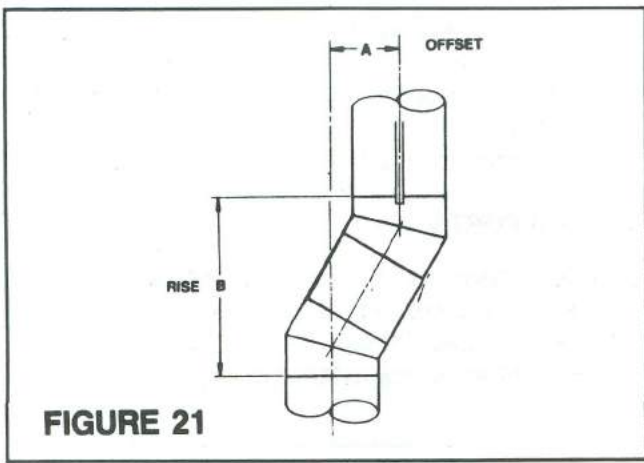

FIGURE 21
1. To achieve desired offset, you may install combinations of 12", 18", 36", 48" lengths of double wall pipe (see single offset chart and Figures 21 & 23).